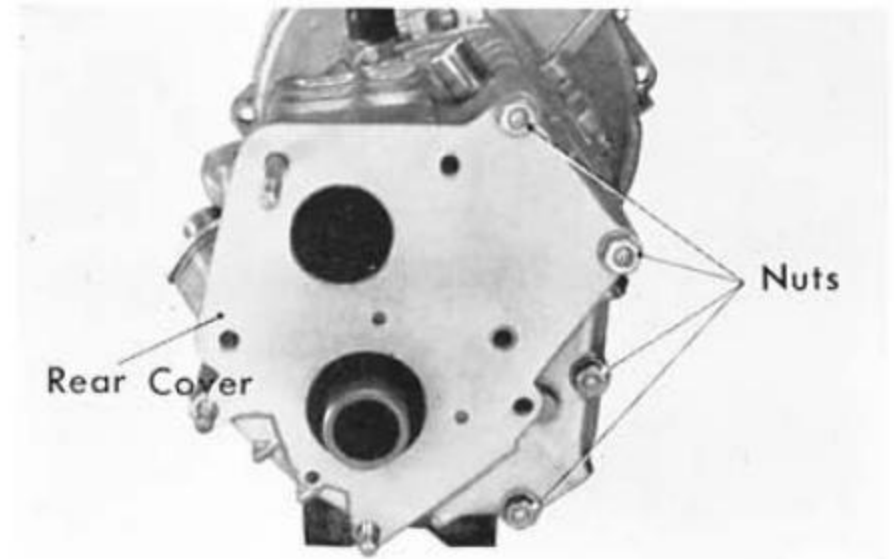

Fig. 6H-1
2. After installing to the engine, install the transmission with the engine on the chassis by aligning the splined joint yoke of propeller shaft with the output shaft (main driven gear) (Fig. 6H-2, 3).